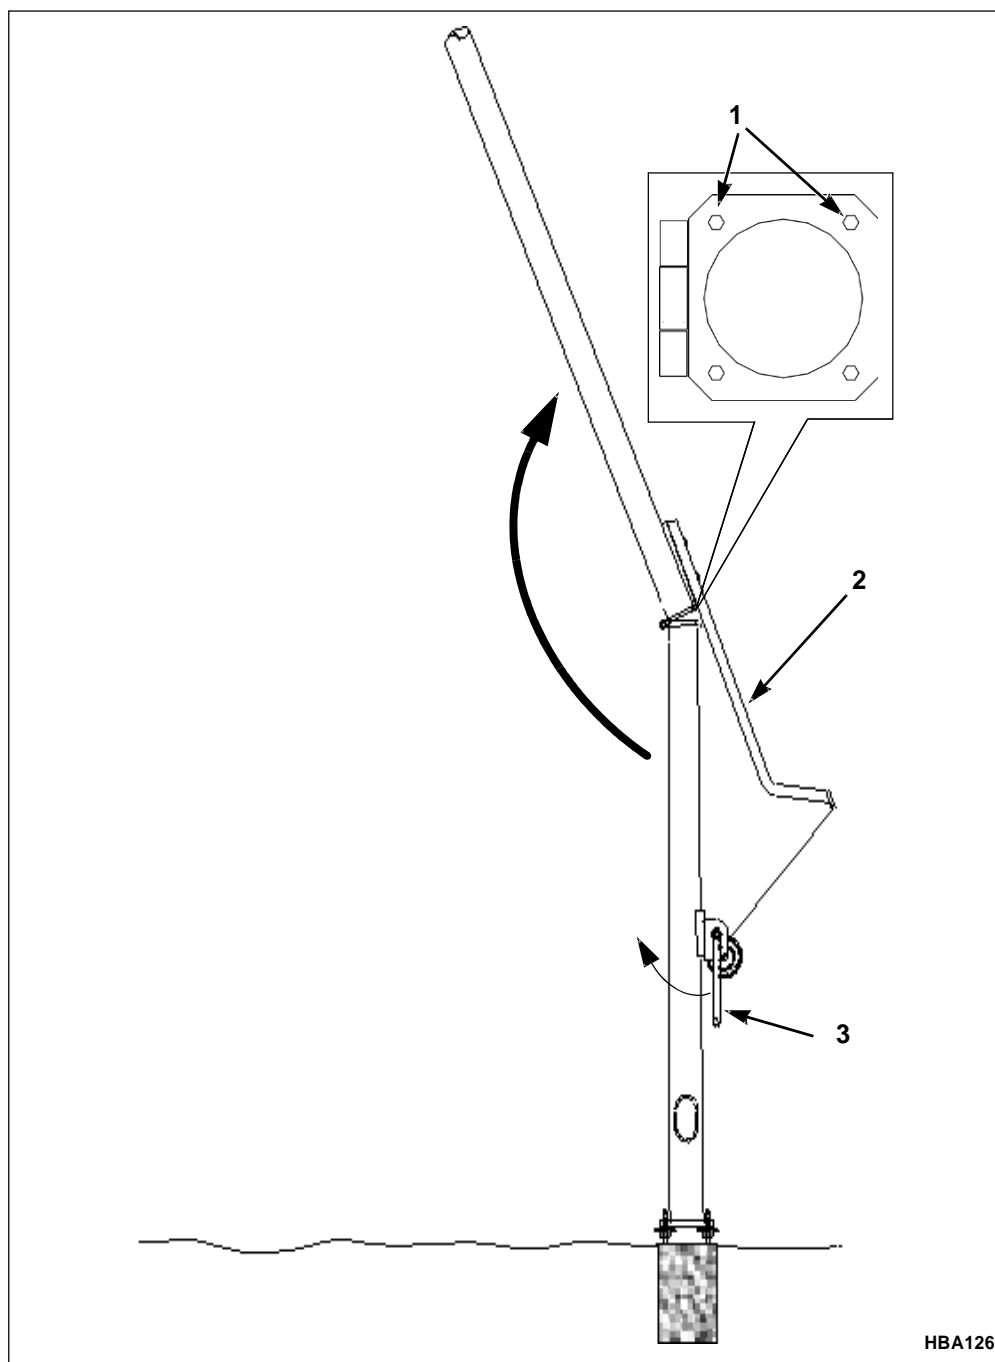

Figure 15. Raising the Top Half of the Pole
1. Using the handcrank on the winch, raise the pole until the hinge is closed, see Figure 15.
2. Place a bolt into each of the four holes in the hinge located at the center of the pole, see Figure 15.